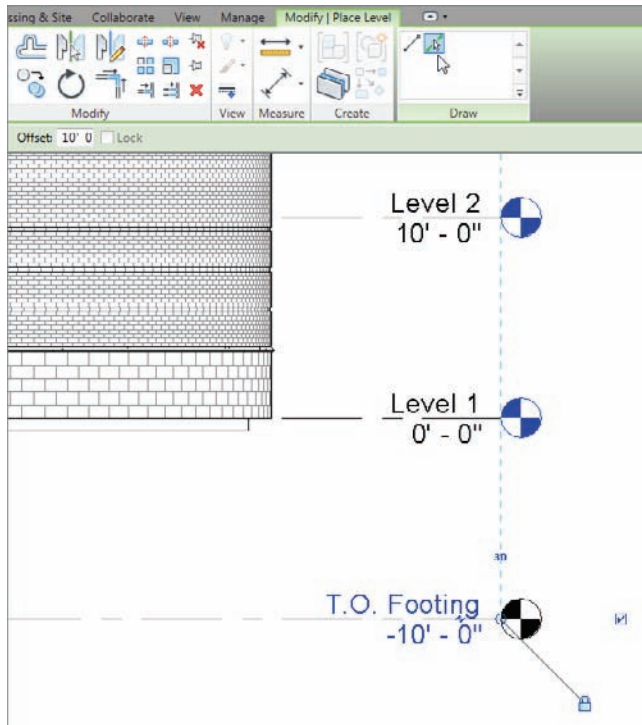

FIGURE 6.52 Adding a new Top of Footing level
3. On the Draw panel, click the Pick Lines icon, and set an offset of 10'-0" (3000mm), as shown in Figure 6.52.
6. Pick the level that is set to -10'-0" (-3000mm) and rename it T.O. Footing (see Figure 6.52).